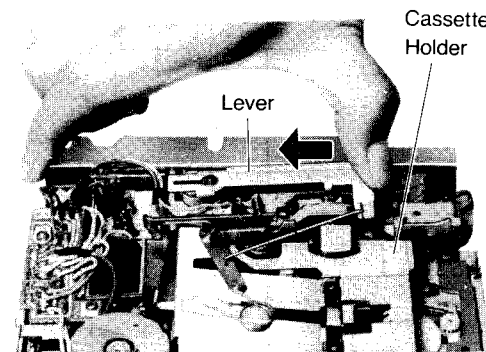

Fig. 14
*3. Push the lever and reset the cassette holder as shown in fig. 14.